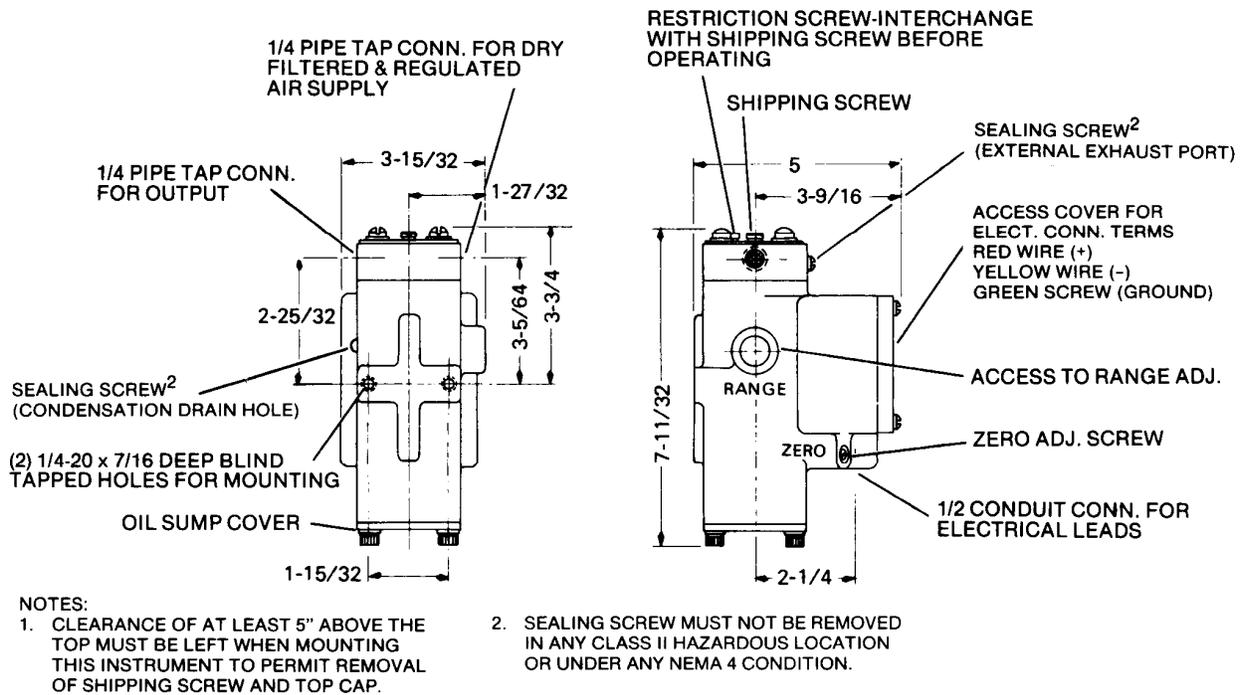
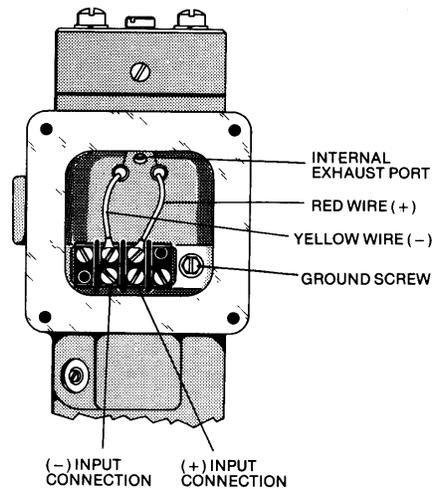

FIGURE 2-1 Transducer Installation and Mounting Dimensions
FIGURE 2-5 Terminal Enclosure
Figure 2-1 shows transducer dimensions, mounting hole locations, electrical access ports, and pneumatic connections. Mount the transducer in an upright, vertical position. Tilting to 10° from vertical will not affect operation
The supply (IN) and output (OUT) connections on the transducer are 1/4 inch NPT. See Figure 2-1. Quarter-inch O.D. tubing is recommended for piping to the transducer. Before making connections, blow out all piping.
The transducer has two exhaust ports: one at the front of the top housing (Figure 2-1) and the other above the terminal block in the terminal enclosure (Figure 2-5). As shipped, two sealing screws are installed: one is installed in the external exhaust port at the front of the top housing, and a second is installed in the condensation drain. This configuration allows the transducer's exhaust air to purge the terminal enclosure, the conduit, and associated electronic enclosure (if used).
If airtight conduit, conduit fittings, and electronic enclosures are used, move the exhaust sealing screw to the internal exhaust port in the terminal enclosure (Figure 2-5) and remove the condensation drain sealing screw. This allows the transducer exhaust to be vented to atmosphere through the external exhaust port. It also allows any accumulated condensation from the instrument air supply to drain from the coil cavity.
The transducer has a shipping screw in the center of the top housing to protect the transducer's nozzle during shipment. A restriction screw (stamped R) is located just behind the shipping screw. These two screws must be interchanged before placing the instrument into operation. Turn the restriction screw in tightly for proper operation. Note that if the transducer is to be moved to another location, return the shipping and restriction screws to their original positions to protect the nozzle. See Figure 2-1 for the positions.
Connect electrical wiring to the terminal block in the terminal enclosure. Figure 2-1 locates the terminal access cover and the 1/2" conduit connector for input wiring. Figure 2-5 identifies the wiring connections. As shipped from the factory, the conduit connection is a vent path for the transducer's exhaust. Refer to the EXHAUST ALIGNMENT section if airtight conduit or fittings are to be used.
The transducer has two calibration adjustments: ZERO and RANGE. These are identified on the transducer and in Figure 2-1.
Refer to Figures 2-1 and 2-4 for pneumatic and electrical connections.